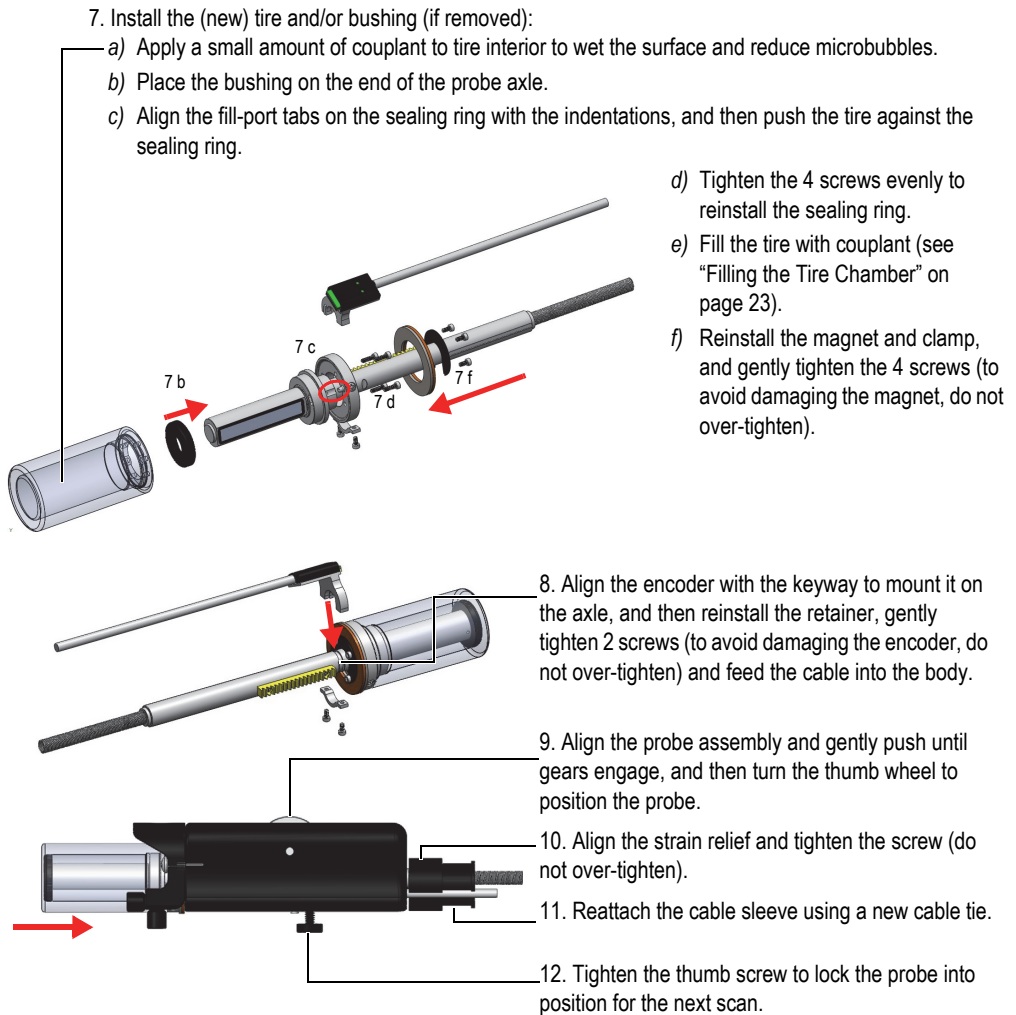

Figure 4-2 Installation steps
- Installation steps are shown in Figure 4-2 on page 31.